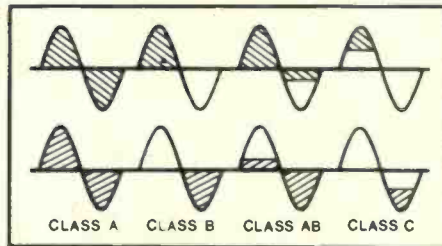

FIGURE 1: AREAS OF CONDUCTION FOR EACH HALF OF A COMPLIMENTARY CIRCUIT VS THE BIAS CLASSES A, B, AB & C
7. Mr. Buff's evaluation of our MCI retrofit card was apparently not done under appropriate conditions. On  $64$  random samples in the field we are achieving tracking accuracies of  $\pm 0.2$  dB. The curve Mr. Buff represents as being from our MCI card is impossible to obtain, as the circuit is electronically prevented from operating in its non-linear region. In addition, the noise performance in MCI consoles is quite acceptable, being  $10$  to  $14$  dB below tape recorder noise at the mix buss output (see Figure 1).
These terms are used to define the signal vs. bias conditions within an amplifying device, and are defined by the author below, as well as graphically in the content of Figure 1. If a differing definition exists, I would like to know about it so that I may be more enlightened in my work.